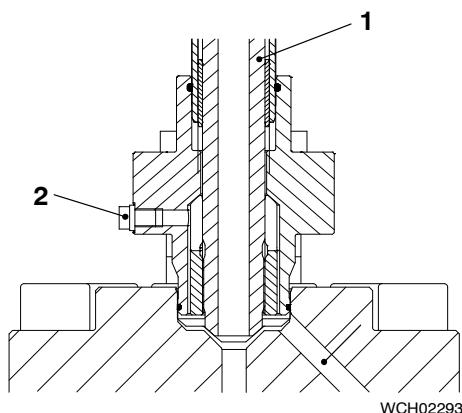

Fig. 4
- 11) Open the screw plug (2, Fig. 4). If there is no fuel, the HP fuel pipe (1) is fully drained.
- 12) Tighten the screw plug (2).